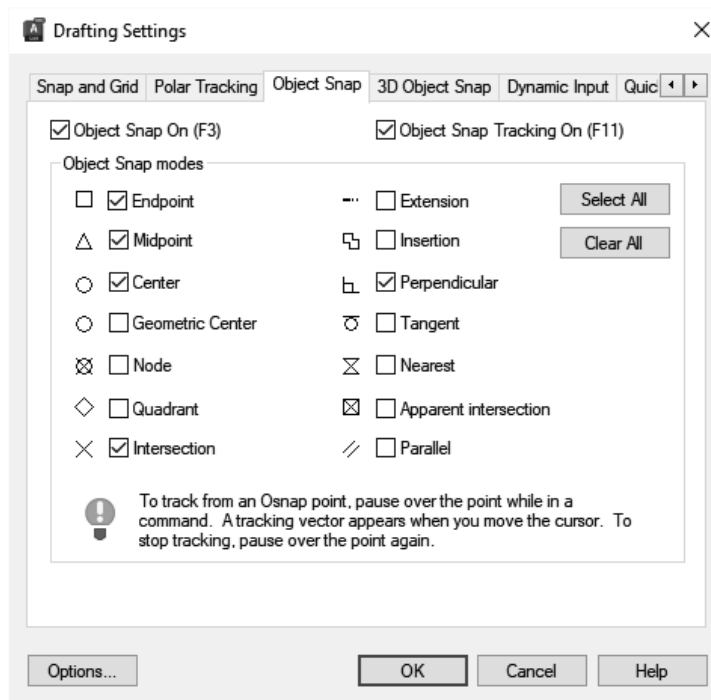

FIGURE 2-2.5 Object Snap tab on Drafting Settings dialog
You are now in the **Drafting Settings** dialog box on the *Object Snap* tab; compare to **Figure 2-2.5**.
**FYI:** The running *Object Snaps* shown in Figure 2-2.5 are for AutoCAD in general, not just the current drawing. This is convenient; you don't have to adjust to your favorite settings for each drawing (existing or new). Thus, each person working on this drawing can have their own preferences for *Object Snaps*.